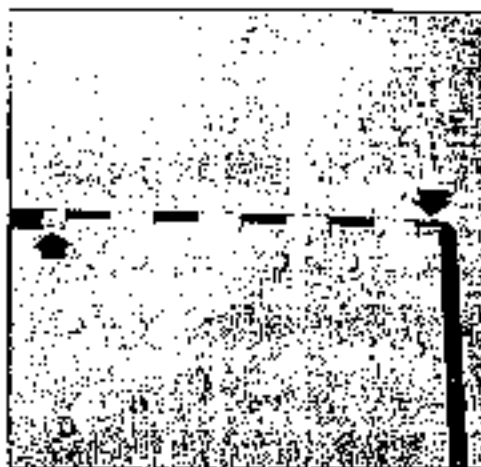

Fig. 5-48 Remove cotter pin at hinge end
- (2) Removing cotter pin at continuous hinge end, pull hinge pin. Remove tab from aircraft. (See Fig. 5-48)
- (3) Install in reverse sequence of removal.